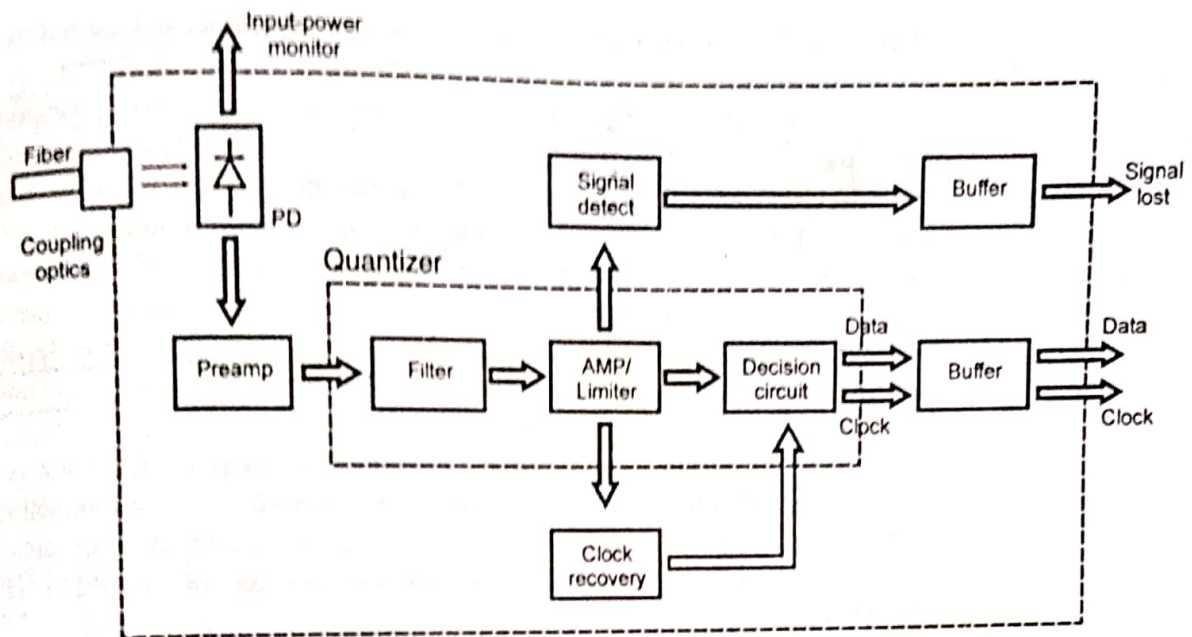

Figure 11.16 Functional block diagram of a receiver. (Adapted with permission from Opto Electronic Products by Ericsson Microelectronics AB, Stockholm, Sweden.)
Block diagram (Many types of receivers are used in modern fiber-optic communications systems. They differ in their architecture and in the components they use; however, most of them have very much in common functionally.) A typical functional block diagram of a receiver is shown in Figure 11.16.
(Light from an optical fiber passes through coupling optics and falls on the sensitive area of a photodiode. (A detailed discussion of coupling optics is presented in Chapter 9; additional discussion can be found in Section 11.2.) A photodiode (PD) converts light into photocurrent. This photocurrent is converted into voltage and amplified by a preamplifier, denoted as "Preamp" in Figure 11.16. The output voltage from the preamplifier enters a block (usually called a "quantizer") whose output is data and clock signals in an appropriate format. (This block will be discussed shortly.) The data and clock signals then enter a buffer, which converts them into ECL-compatible signals capable of driving the succeeding digital circuitry. Thus, the input of a receiver is an optical signal and the output is the electric voltage in a specific format with specific electrical characteristics.) Now let's look at the components of a receiver in detail.
✓ **Buffers** (A buffer transfers a logic signal from the input to the output unchanged but reshapes the electrical form of this signal. Typically, this is an emitter-follower circuit. In this case, a buffer provides output in ECL-compatible format. (For more on buffers, see Section 10.4.) A receiver can contain several buffers, as Figure 11.16 illustrates.
✓ **Monitoring circuits** Look again at Figure 11.16. Notice the two monitoring circuits in the typical receiver. The first, monitoring the voltage drop produced by photocurrent flowing through a resistor, allows the engineer to keep tabs on input power. The second, a flag signal from a signal detect circuit, watches for a possible signal-lost situation.